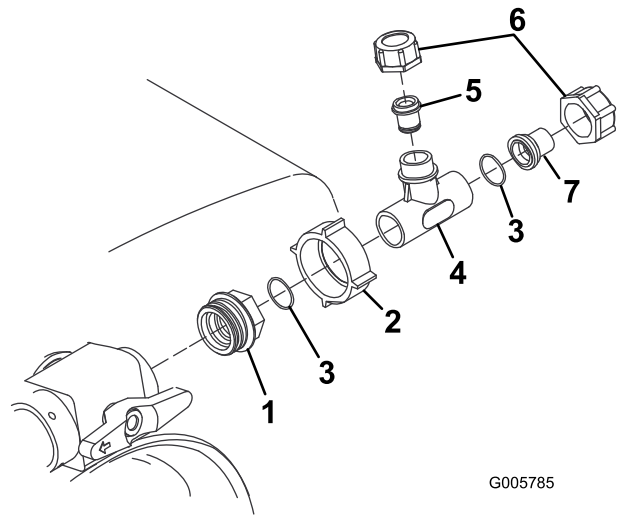

Figure 8
12. Turn the large plastic nut to secure the tee assembly to the control valve (Figure 8).
11. Connect the large adapter end of the tee assembly to the control valve (Figure 8).